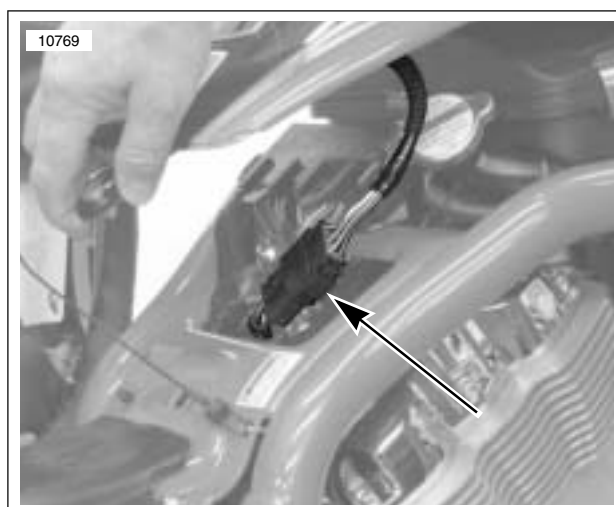

Figure 7-1. Console Connector
2. See Figure 7-1. Unlatch and lift rear of airbox cover a few inches.
2. See Figure 7-1. Connect console connector halves together.